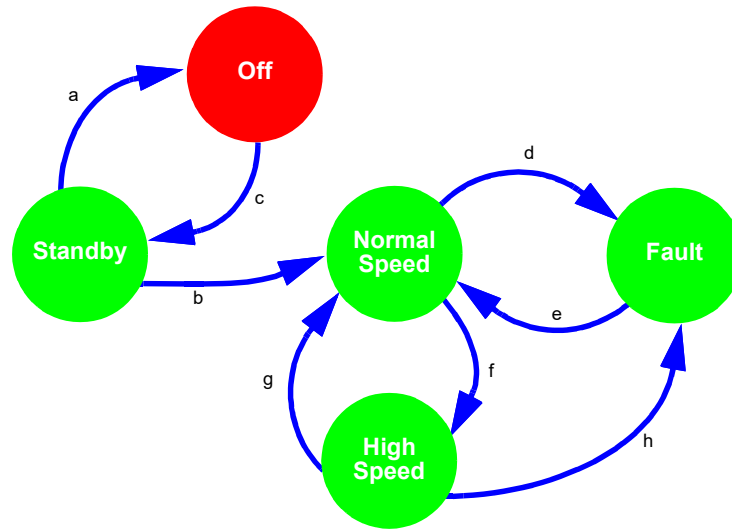
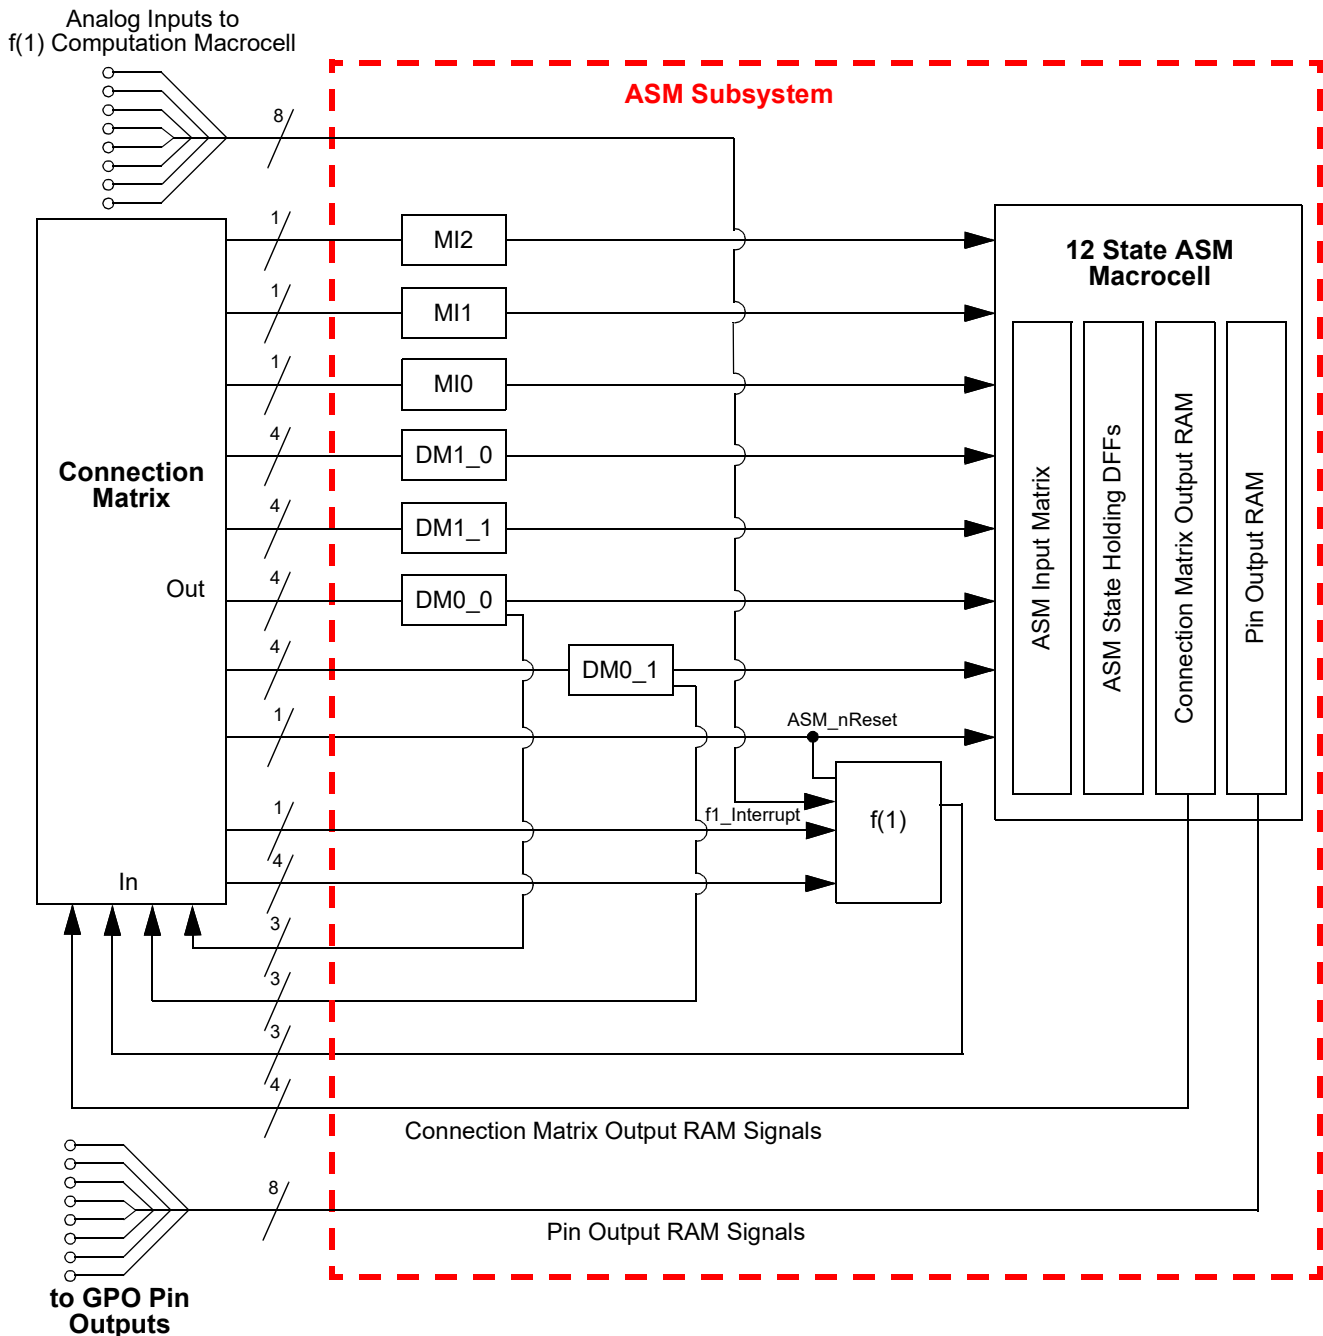

Figure 96: Asynchronous State Machine State Transitions
Figure 97: Connection Matrix to ASM Subsystem
The Asynchronous State Machine (ASM) Subsystem is designed to allow the user to create state machines with between 2 to 12 states. The user has flexibility to define the available states, the available state transitions, and the input signals (a, b, c ...) that will cause transitions from one state to another state, as shown in Figure 96.
- Dynamic Memory (DM) Macrocells – Section 16.
- f(1) Computation Macrocell – Section 17.
- Matrix Interface (MI) Macrocells Section 18.
The ASM Subsystem has a total of 25 digital input signal lines, as shown in Figure 97, which all come from the Connection Matrix outputs. Of these 25 digital input signals, 3 are user selectable inputs going directly from the Connection Matrix to the three Matrix Interface (MI) macrocells. There are a total of 16 input signals that go to the DMx_x macrocell, four per macrocell. There is 1 ASM_nReset input that is for driving a state transition in both the ASM macrocell and the f(1) Computation Macrocell to an Initial/Reset state. It is possible to use one macrocell only (MI or DM) for state to state transitions. There are 4 digital input signals coming from the Connection Matrix to the f(1) Computation Macrocell. There is also 1 dedicated Interrupt input signal to the f(1) Computation Macrocell that will halt any active operations and transfer control back to the ASM macrocell.
The ASM Subsystem has a total of 21 digital output signal lines, as shown in Figure 97. There are a total of 4 output signals which go to the Connections Matrix inputs, and from there can be routed to other internal macrocells or pins. The 4 outputs are user defined for each of the possible 12 states. There are a total of 8 output signals which go directly to the 8 GPOs. The 8 outputs are user defined for each of the possible 12 states. Each of the three macrocells, DM0_0, DM0_1 and f(1) have three output signals that go to the Connection Matrix.
The GPAK Designer development tools support user designs for the ASM Subsystem at both the physical level and logic level. Figure 96 is a representation of the user design at the logical level, and Figure 97 shows the physical resources inside the various macrocells in the ASM Subsystem. To best utilize this subsystem, the user must develop a logical representation of their desired state machine, as well as a physical mapping of the input and outputs required for the desired functionality.